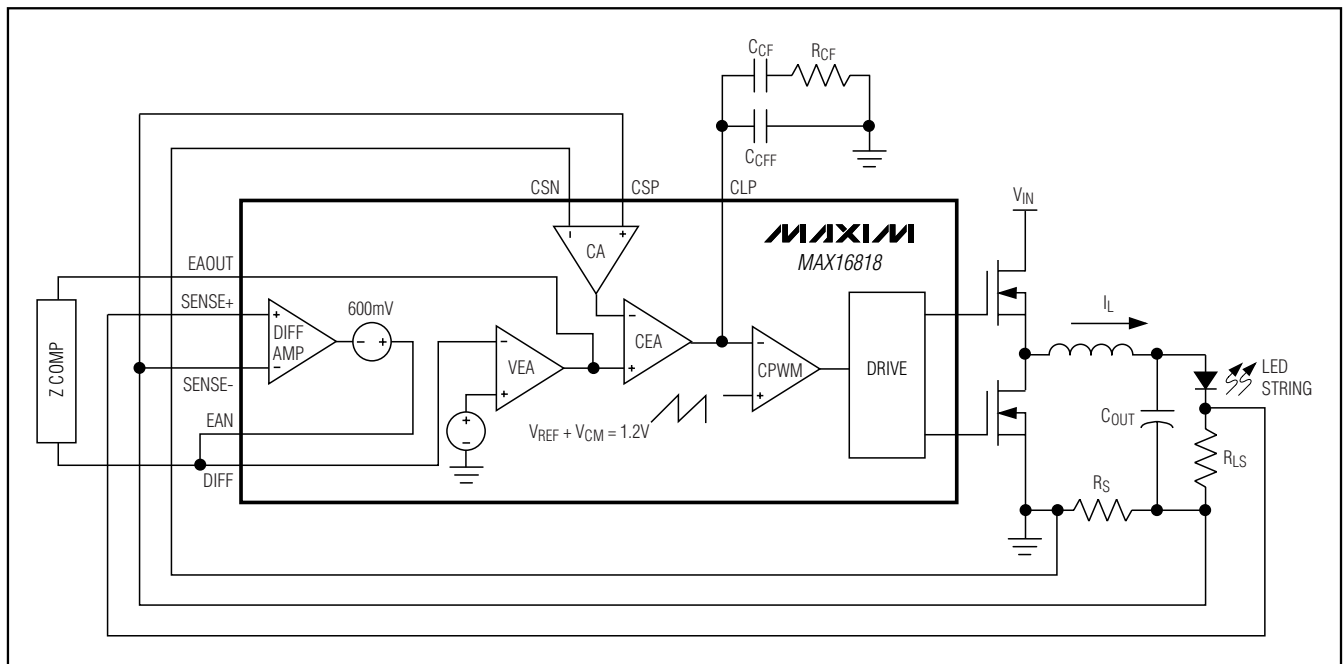

Figure 7. MAX16818 Control Loop
The MAX16818 uses an average-current-mode control scheme to regulate the output current (Figure 7). The main control loop consists of an inner current loop for controlling the inductor current and an outer current loop for regulating the LED current. The inner current loop absorbs the inductor pole reducing the order of the outer current loop to that of a single-pole system. The current loop consists of a current-sense resistor ( $R_S$ ), a current-sense amplifier (CA), a current-error amplifier (CEA), an oscillator providing the carrier ramp, and a
PWM comparator (CPWM) (Figure 7). The precision CA amplifies the sense voltage across  $R_S$  by a factor of 34.5. The inverting input to the CEA senses the CA output. The CEA output is the difference between the voltage-error amplifier output (EAOUT) and the amplified voltage from the CA. The RC compensation network connected to CLP provides external frequency compensation for the CEA. The start of every clock cycle enables the high-side drivers and initiates a PWM on-cycle. Comparator CPWM compares the output voltage from the CEA with a 0V to 2V ramp from the oscillator. The PWM on-cycle terminates when the ramp voltage exceeds the error voltage. Compensation for the outer LED current loop varies based upon the topology.
The MAX16818 has a transconductance current-error amplifier (CEA) with a typical  $g_m$  of 550 $\mu$ S and 320 $\mu$ A output sink- and source-current capability. The current-error amplifier output CLP serves as the inverting input to the PWM comparator. CLP is externally accessible to provide frequency compensation for the inner current loops (Figure 7). Compensate (CEA) so the inductor current negative slope, which becomes the positive slope to the inverting input of the PWM comparator, is less than the slope of the internally generated voltage ramp (see the *Compensation* section).
The DIFF AMP facilitates remote sensing at the load (Figure 7). It provides true differential LED current (through the  $R_{LS}$  sense resistor) sensing while rejecting the common-mode voltage errors due to high-current ground paths. The VEA provides the difference between the differential amplifier output (DIFF) and the desired LED current-sense voltage. The differential amplifier has a bandwidth of 3MHz. The difference between SENSE+ and SENSE- is regulated to 0.6V. Connect SENSE+ to the positive side of the LED current-sense resistor and SENSE- to the negative side of the LED current-sense resistor (which is often PGND).